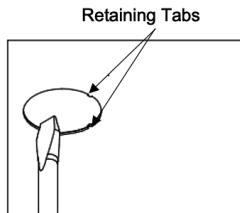

Figure 1
STEP 1: Remove LED cover assembly ② by lifting upward on exposed edges of part. Start in the middle and work outward.
STEP 2: Select your preferred CCT by moving CCT switch ⑩ to either 2700K, 3000K, 3500K, 4000K or 5000K.
STEP 3: Determine appropriate knockout for removal in relationship to incoming power supply. Knockouts are located on each end and back of the fixture. Place standard screwdriver on center of slot and gently strike with hammer. Grip edge with pliers and flex back and forth until removed (see Figure 1).